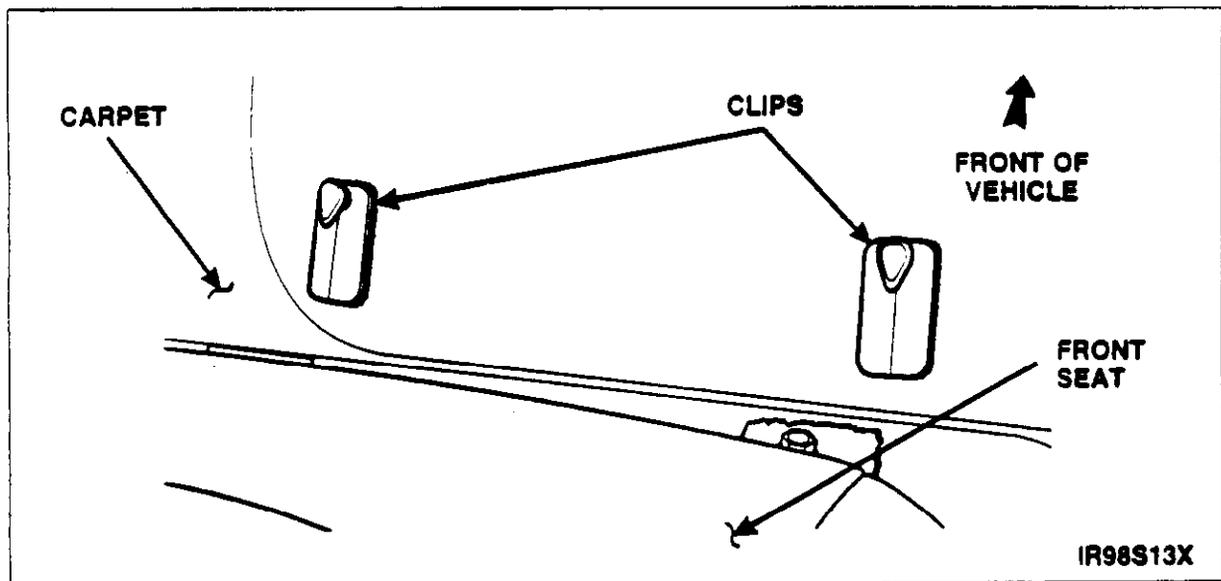

FIGURE 29
18. When clips are completely installed, they should appear as shown in Figure 29.